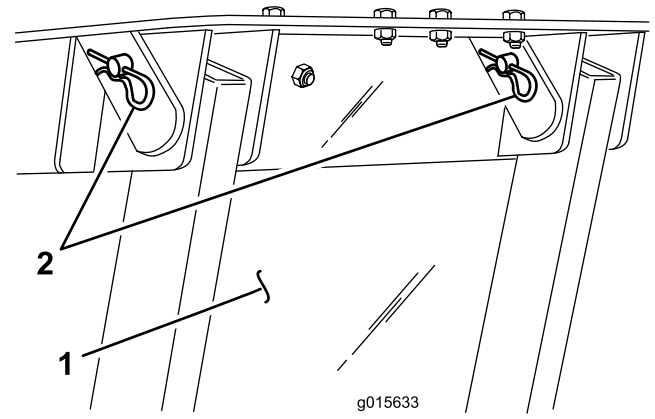

Figure 20
3. Secure the hopper to the frame with (2) welded mounting pins and hair pin cotters (Figure 20).
1. Remove the tie straps securing the tie rods to the hopper arms. Install (2) 5/16 x 1 inch carriage bolts and flange nuts in hopper arm holes where tie straps previously were.
2. Slide the hopper assembly (hopper cover to rear) into the side frame while aligning the mounting holes in hopper with the holes in frame (Figure 20).